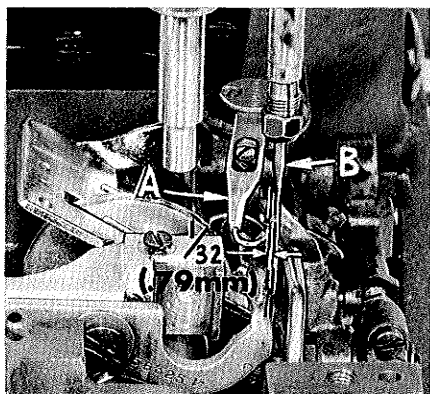
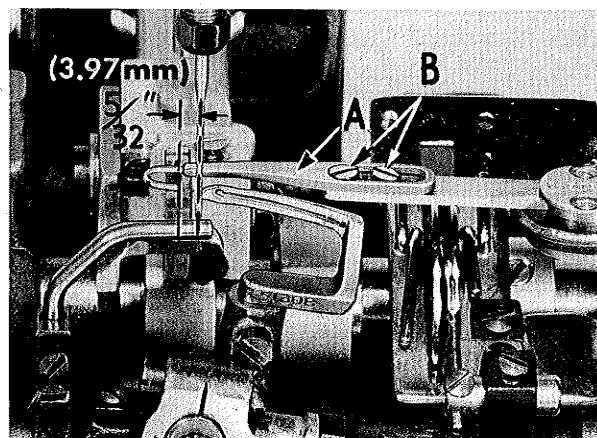

Fig. 18
Fig. 19
As the retainer (A, Fig. 18) passes behind the needle (B), going from right to left, and the point of the retainer hook reaches the right side of the needle, the distance between the back of the needle and point of the retainer should be $\frac{1}{32}$ inch (.79 mm) (See Fig. 18). When the retainer reaches the extreme left end of its travel, the point of the loop retainer hook (A) should be $\frac{5}{32}$ inch (3.97 mm) from the centerline of the needle (See Fig. 19). These dimensional settings can be made by loosening screws (B, Fig. 19), reposition loop retainer hook (A) as required and retighten screws (B).